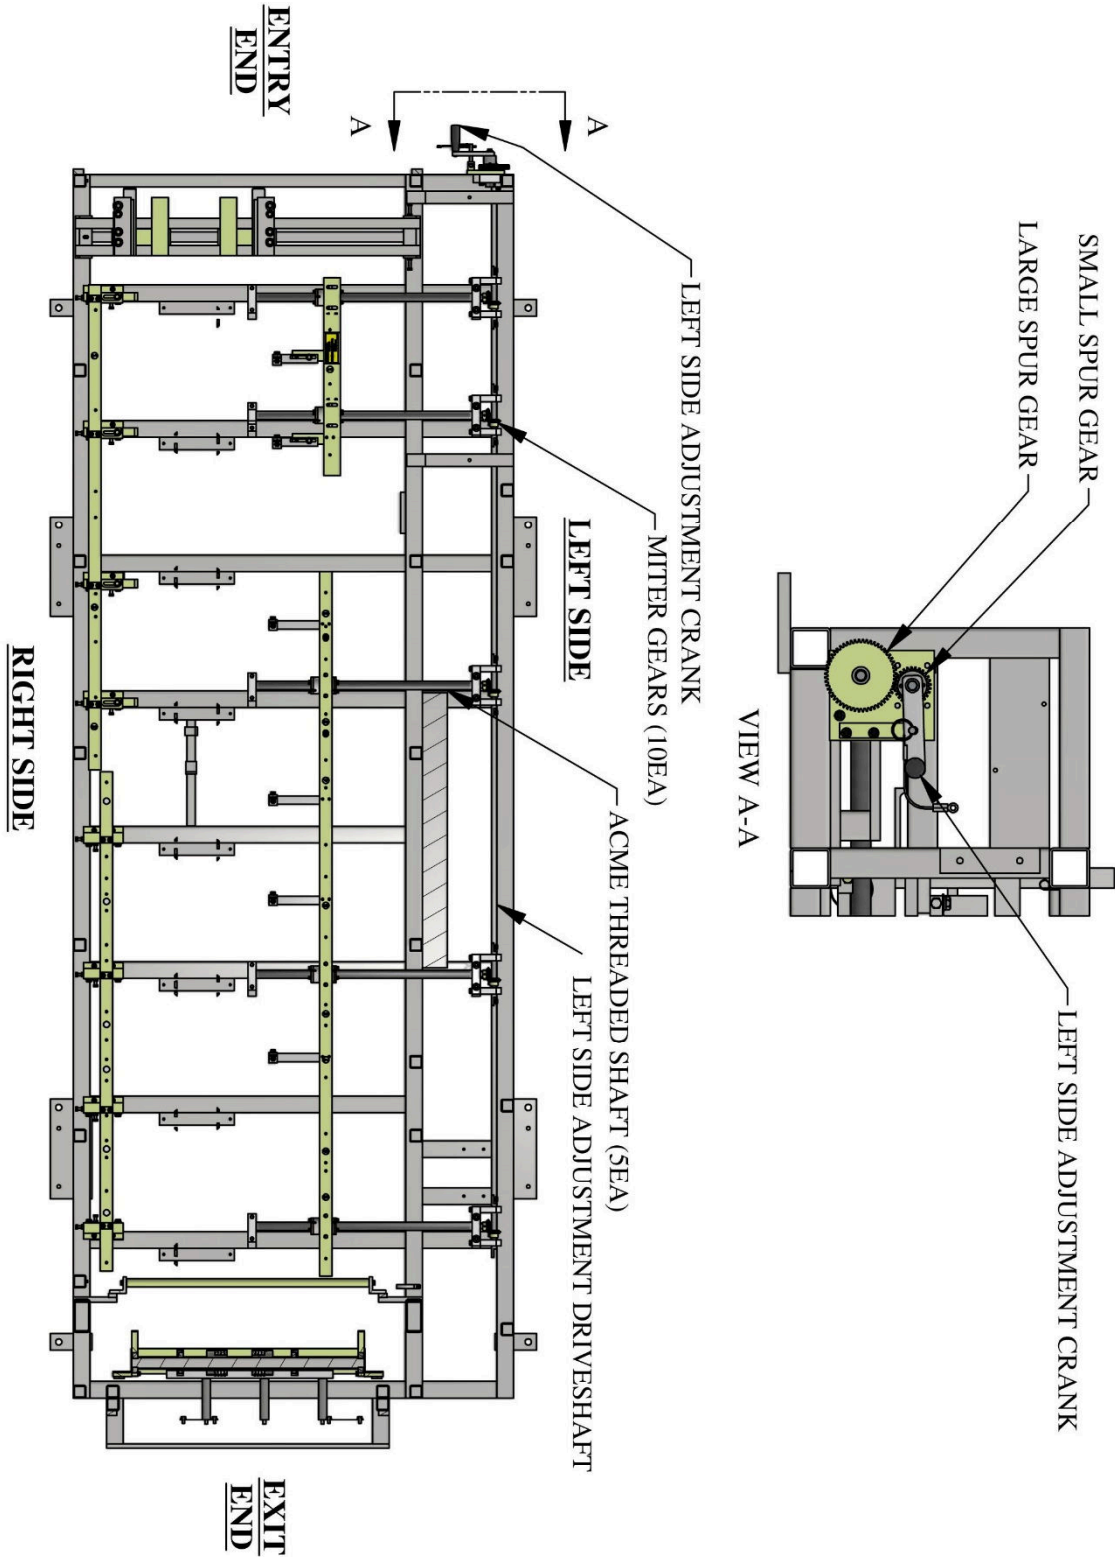

Figure 6: Acme Shafts and Left Side Adjustment
9. Lubricate 5 Acme Shafts (Figure 6 on page 11) with Spray Lube as needed.
10. Lubricate Miter-Gears (Figure 6 on page 11) on ends of Acme Shafts with Spray Lube as needed.